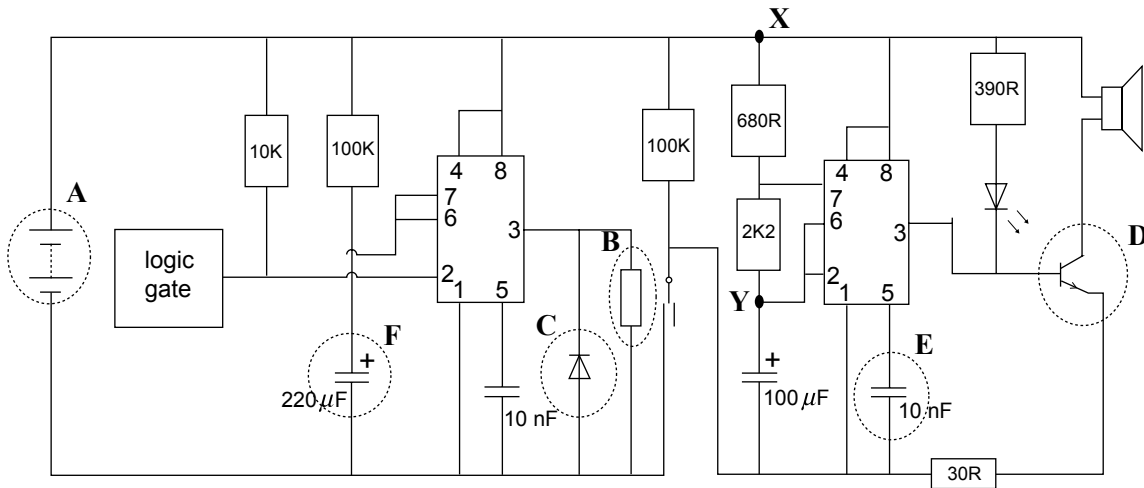

Figure 9
The logic gate and timer and alarm system circuit diagram are illustrated in Figure 9.
h. Name the following components that have been marked and labelled in Figure 9.